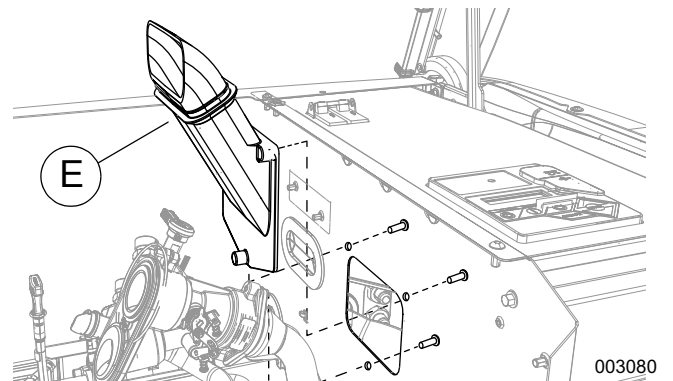

Figure 8. Removing the Snorkel (11–22 kW)
3. See Figure 8. Remove three mounting screws behind the engine divider panel to disconnect the snorkel (E).